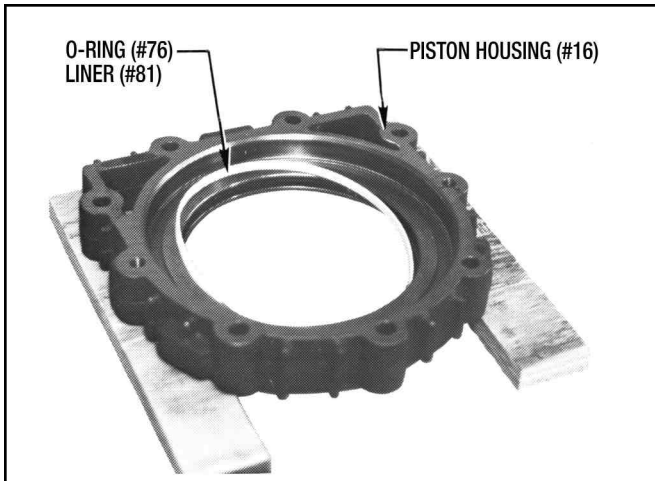

Figure 9.12 - Piston Housing
3. Install O-Ring (#76) and Liner (#81) into the Piston Housing (#16). (See Figure 9.12)